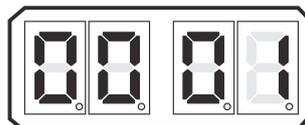

Figure 10-8: Example Display Station A/D's Transfer Button Depressed for Stations 1 - 4
- B For Stations 1 - 4 when the Transfer Button is depressed, the 0 which represents that remote station, will change to a 1 as shown in Figure 10-8: Example Display Station A/D's Transfer Button Depressed for Stations 1 - 4.